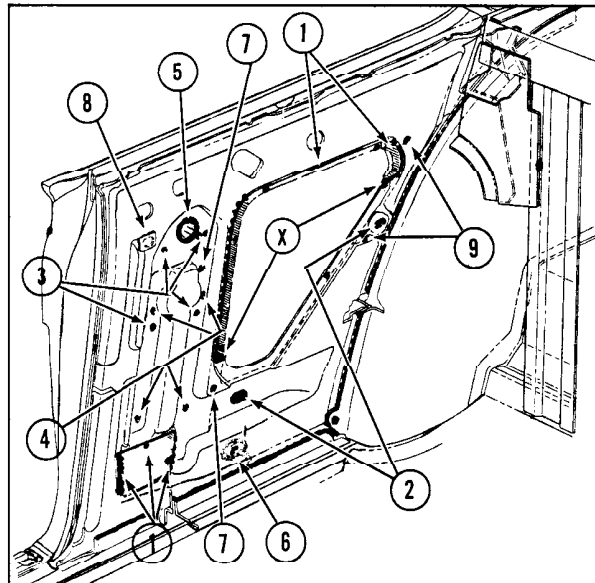

Fig. 17-62 Inner Quarter Panel Sealing ("37" Styles)
- (For "37" Styles Refer to Fig. 17-62)